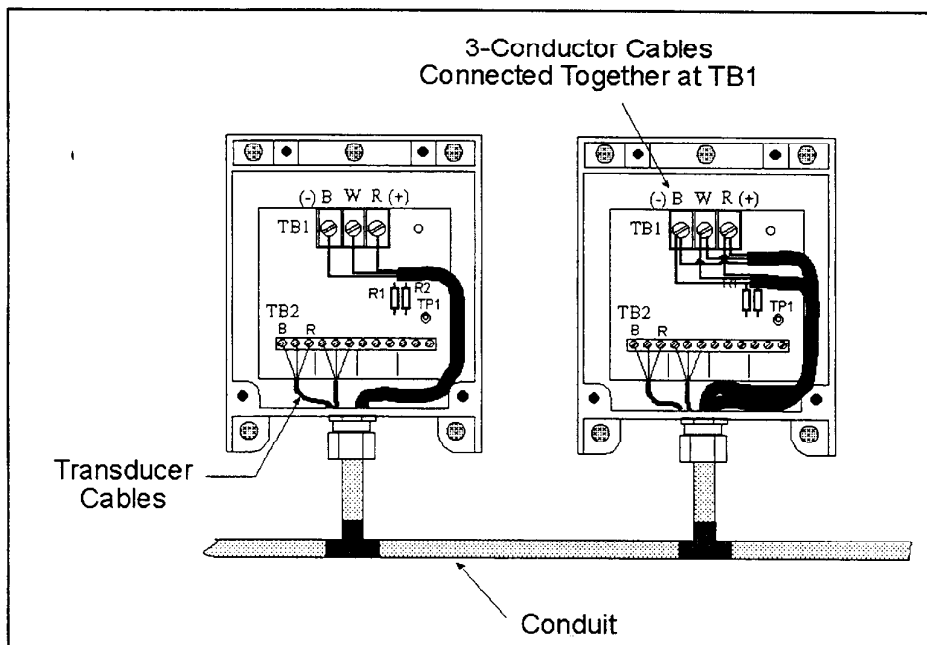

Figure 2-22. Wiring Plastic Junction Boxes Together.
2. Connect the black wire to the black terminal, white wire to the white terminal, and red wire to the red terminal on the TB1 terminal block (Figure 2-22).
4. connect the wires to the terminals, black to black, white to white, red to red. Figure 2-22 illustrates two junction boxes wired together.